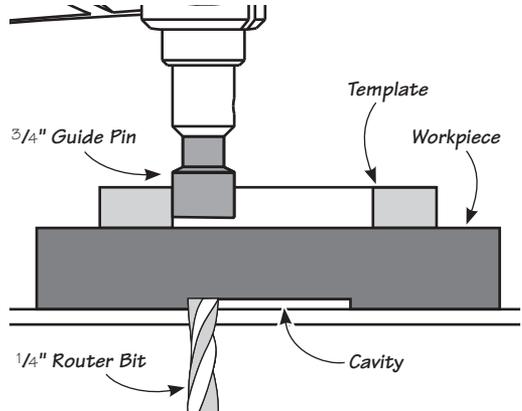

Figure 19: Cutting the cavity.
2. *Cut cavity.* Secure the template to the back of the workpiece that is to receive the inlay. Use the $\frac{3}{4}$ " guide pin and a $\frac{1}{4}$ " bit. Set the bit height for the depth of the cavity to slightly less than the thickness of your inlay to leave a sanding allowance to bring the two pieces perfectly flush. Adjust the guide pin so that it is slightly above the workpiece (or backing piece if used). Rout the perimeter of the workpiece cavity (turning the workpiece clockwise) before removing any internal waste (**Figure 19**).